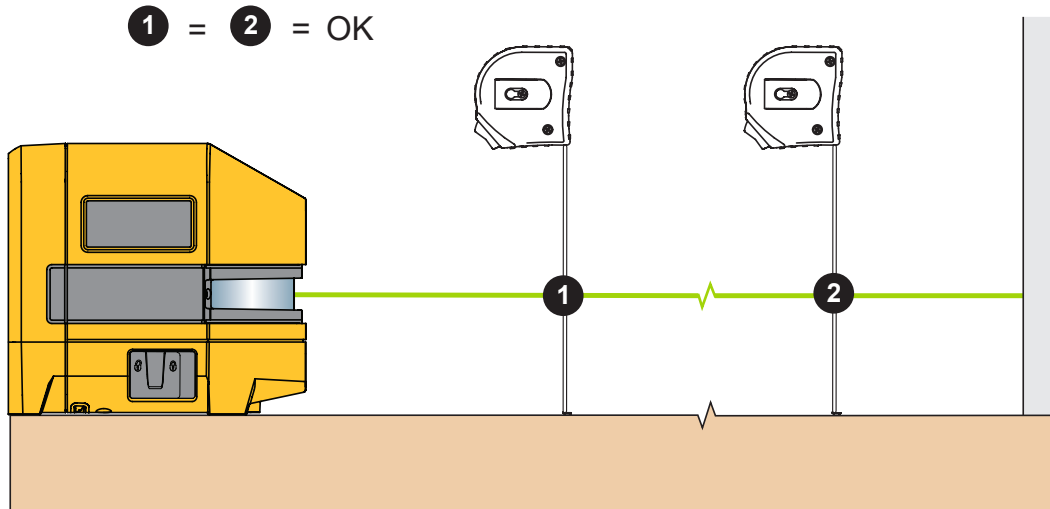

Figure 4. Existing Item Alignment
3. Measure the distance from the item to the laser at various distances from the Product. See Figure 4.